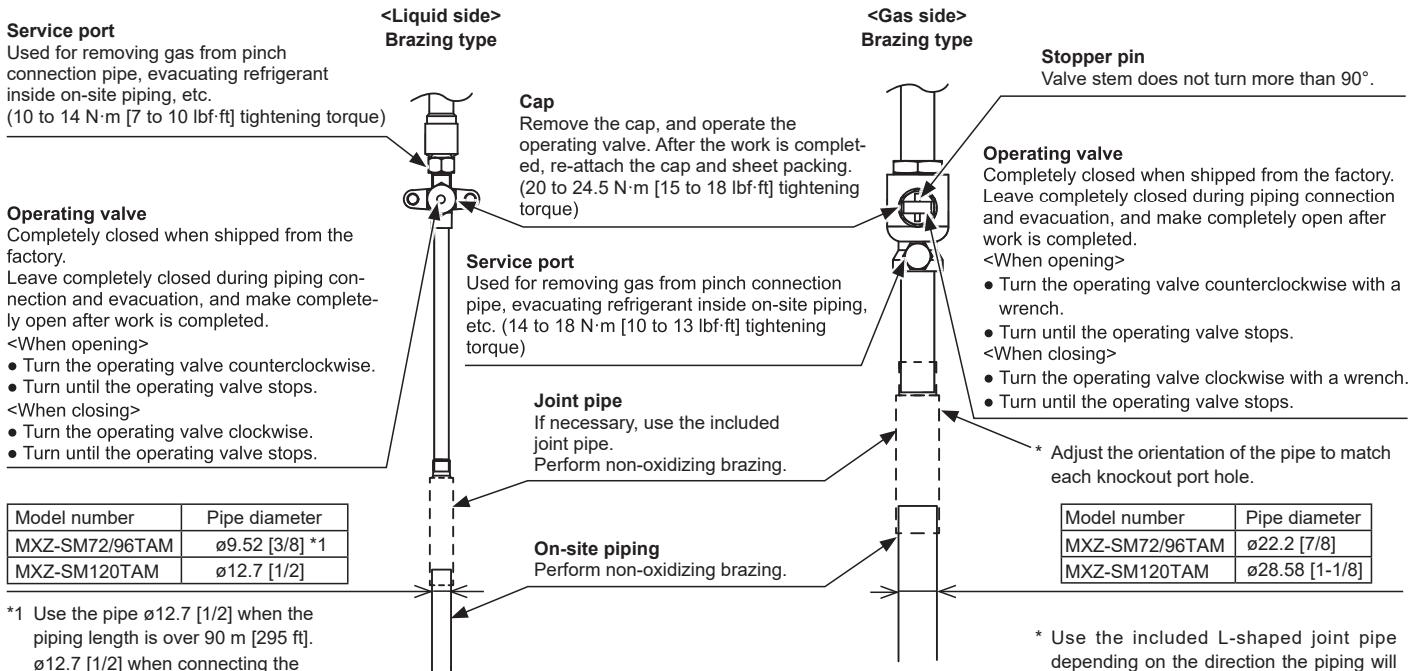

Fig. 4-12
4.5.2. Piping connection and valve operation (Fig. 4-12)